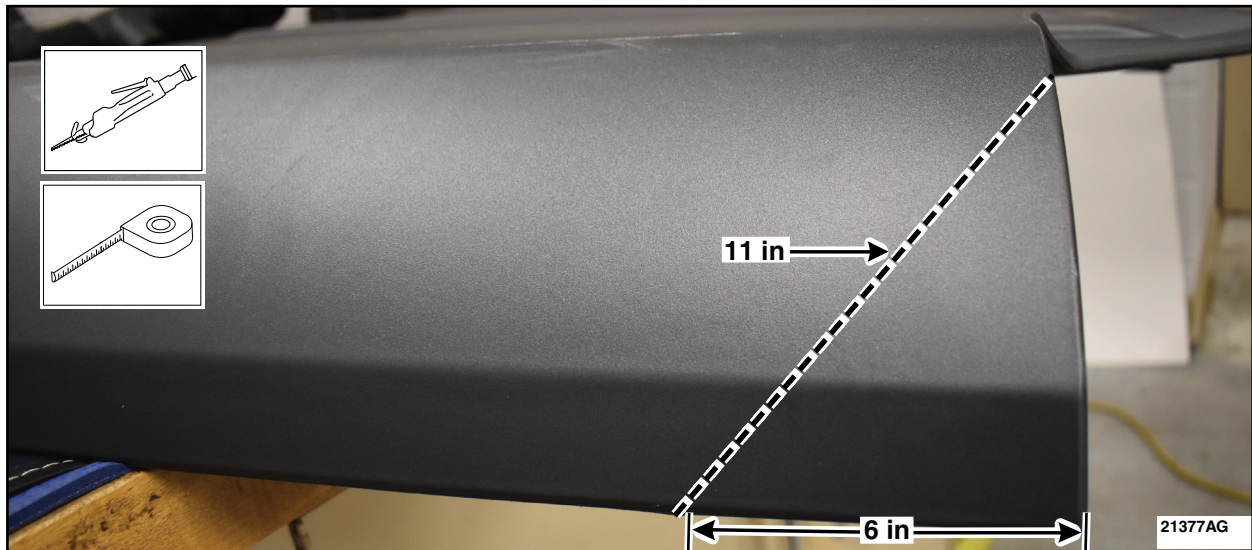

FIGURE 22
NOTE: The hard top panels and hard top rear cap assembly disablement must take place at two different corner locations on each panel and rear cap assembly and it will have to be captured in the photo evidence. The hard top panels and the hard top rear cap assembly must not be able to be reused after disablement. See Figures 22 and 23.
1. **ALL** hard top panels and hard top rear cap assembly removed from vehicles must immediately be made unusable by cutting two corners of each hard top panel and hard top rear cap assembly at a minimum of 6 inches in length from the corner, and cutting on an angle through the panel at an minimum of 11 inches making sure to cut through the weather seal where applicable. See Figures 22 and 23.